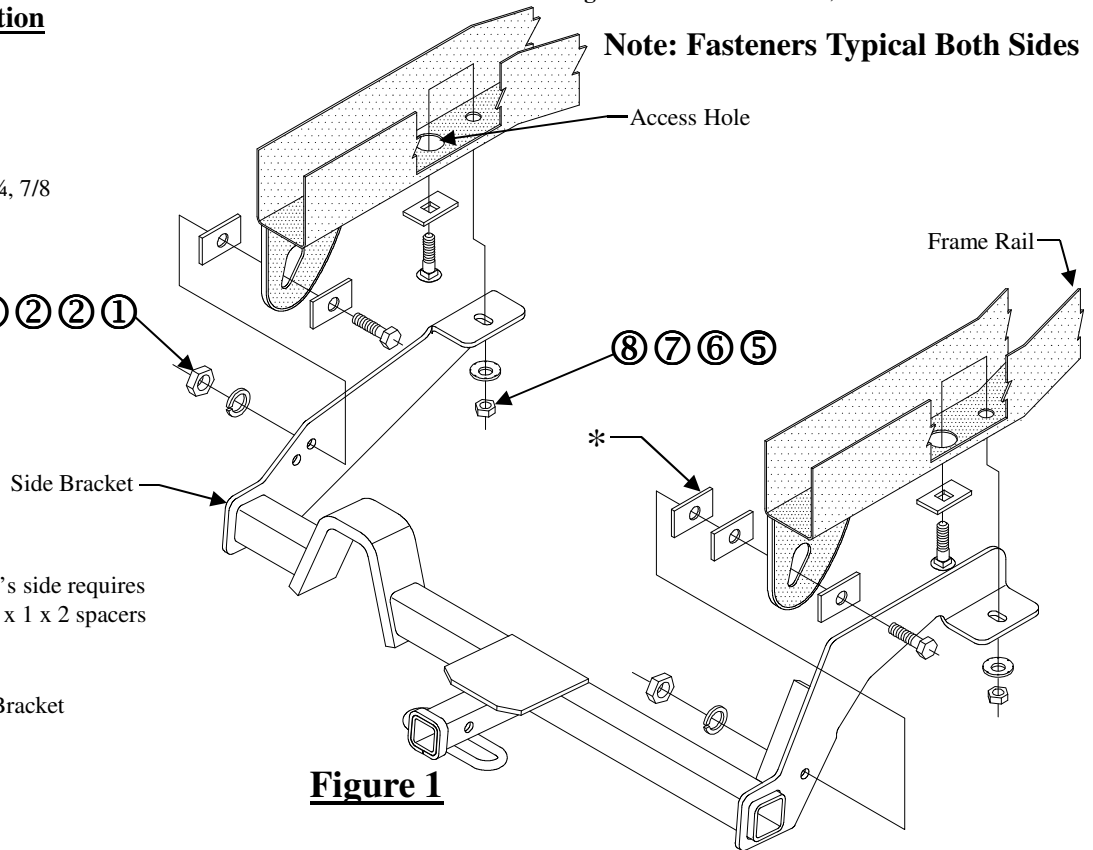

Figure 1
- Remove the four (4) plastic caps from bottom of frame rails. Fishwire carriage bolts and blocks through access hole in bottom of frame as shown in Figure 1.
- Raise hitch into position. Loosely install hex nuts and conical toothed washers onto forward most fasteners. Install hex bolts and blocks as shown in Figure 1.